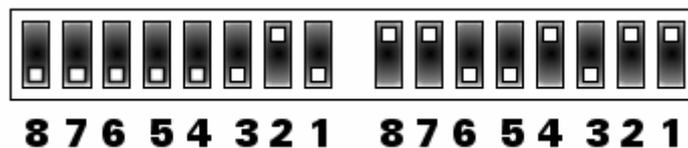

Fig. 5.10 Factory set DIL switch positions, viewed from the rear as shown in Fig. 5.9.
The factory set DIL switch positions are given in Fig. 5.10. The position 4 in the secondary interface DIL switches (Fig. 5.9, item 7) is reserved for service use and it should always be in down position. The positions 5 to 8 in the secondary interface DIL switches are not in use and it is recommended that they are in down position.